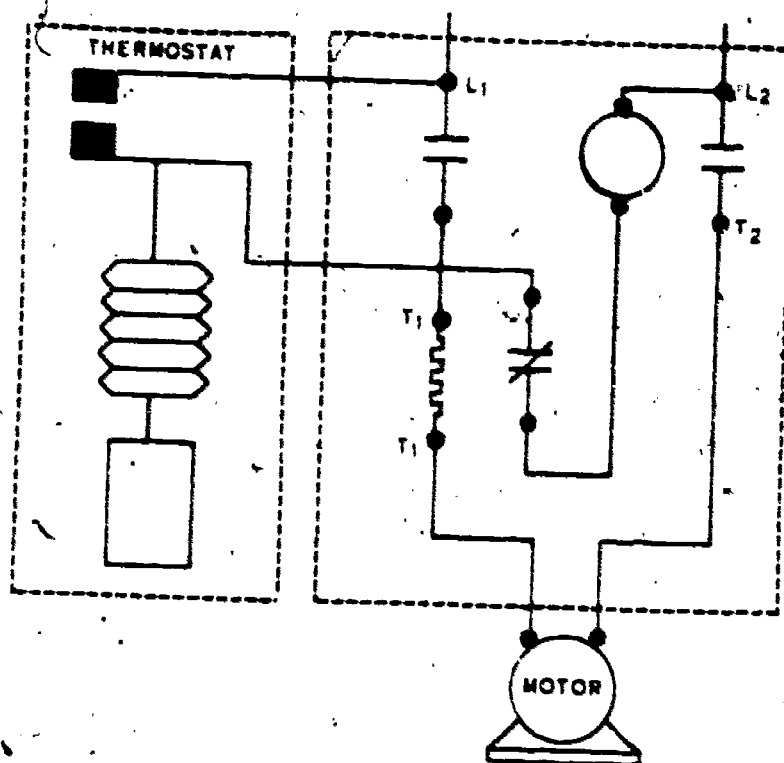

Figure 13. Single-Phase Across-the-Line Motor Starter
5. What type motor starter is shown in figure 13?
6. Using a red pencil, trace the LOAD circuit in figure 13. Assume that the contact points are closed. Begin with  $L_1$  and trace through motor to  $L_2$ .